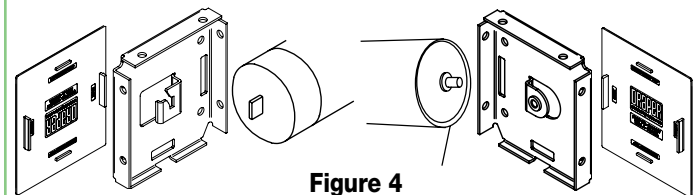

Figure 4
1. For installations with fascia, mount endcaps according to type of installation. Use appropriate fasteners for wall, jamb, or ceiling (see Fig. 4).